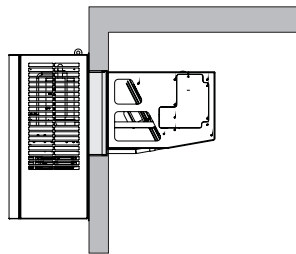

Fig. 1.2.2.e
E) FASTEN the monobloc to the wall with the supplied brackets (Fig.1.2.2.f). The monobloc is to be fastened to the wall with screws.